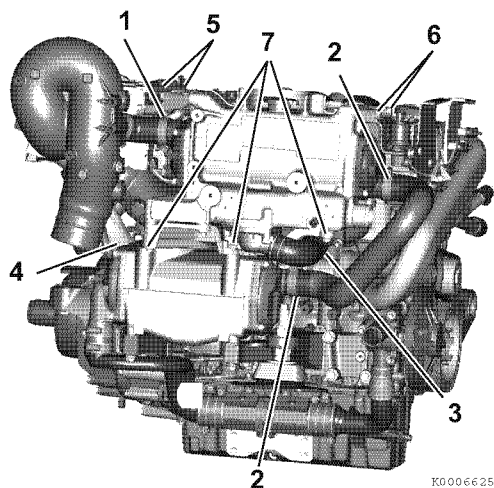

Figure 7-14
4. Disconnect coolant hose (3, **Figure 7-14**) and pipe (4, **Figure 7-14**) from heat exchanger.
5. Remove upper mounting bracket bolts (5 and 6, **Figure 7-14**).
6. Remove three lower bolts (7, **Figure 7-14**).
9. Install the heat exchanger assembly on the engine. Install and tighten bolts (5, 6 and 7, **Figure 7-14**).
3. Disconnect seawater hoses (1 and 2, **Figure 7-14**) from heat exchanger.